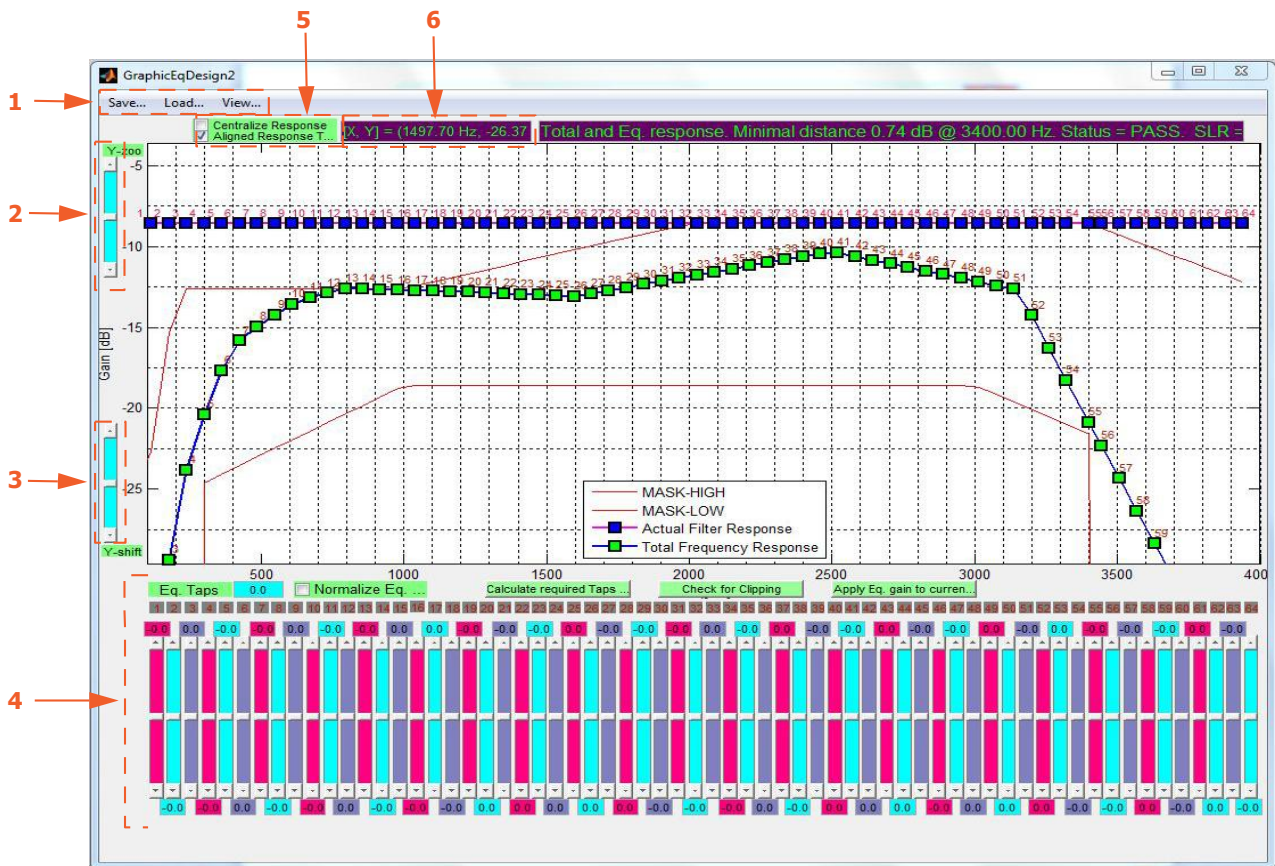

Figure 3: Graphic display of Equalizer Calibration
Figure 3 provides a graphic representation of the filter design given by the embedded script. Moving the cursor within the graph the x,y coordinates of the cursor are shown in the top part of the graph (6). There are two light-blue bars on the left, that can be used for zooming and shifting in the Y direction (2,3).